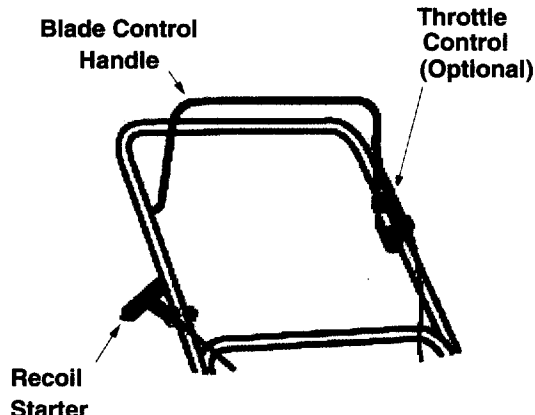

Figure 14
The blade control handle is located on the upper handle of the mower. See Figure 14. The blade control handle must be depressed in order to operate the unit. Release the blade control handle to stop the engine and blade.
- Your throttle control is located on the left side of the upper handle. It is used to regulate the engine speed. See Figure 14.
The recoil starter handle is attached to the handle and is used to start the engine. See Figure 14.